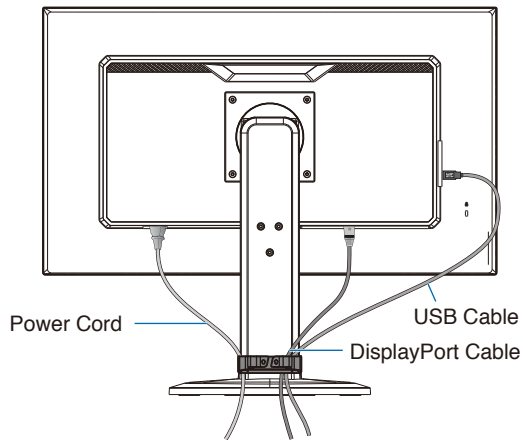
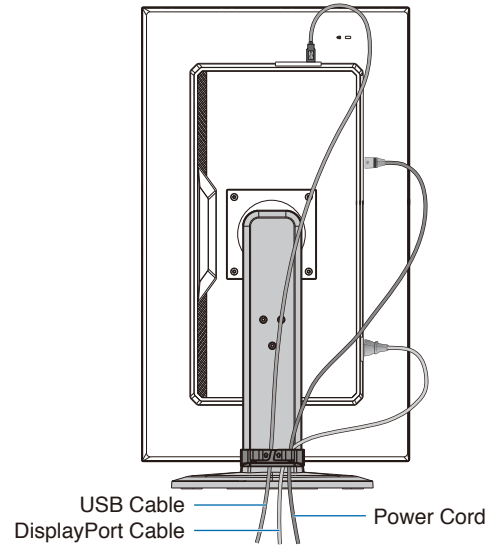

Figure 5
Figure 6
5. Please check that you can still raise and lower the monitor screen after you have installed the cables (**Figure 5** and **Figure 6**).